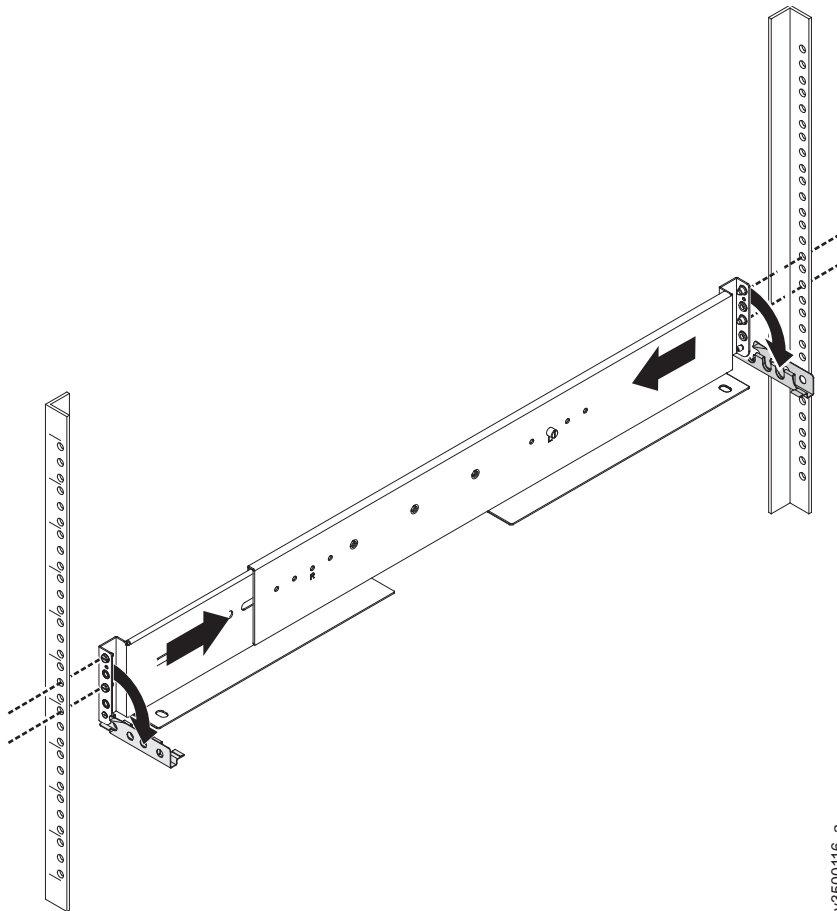

Figure 114. Compressing rail for removal from rack
11. Compress the rail against its spring to shorten it, then remove it from inside the rack (Figure 114 on page 368).
12. Repeat steps 9 on page 366 to Figure 114 on the right support rail.